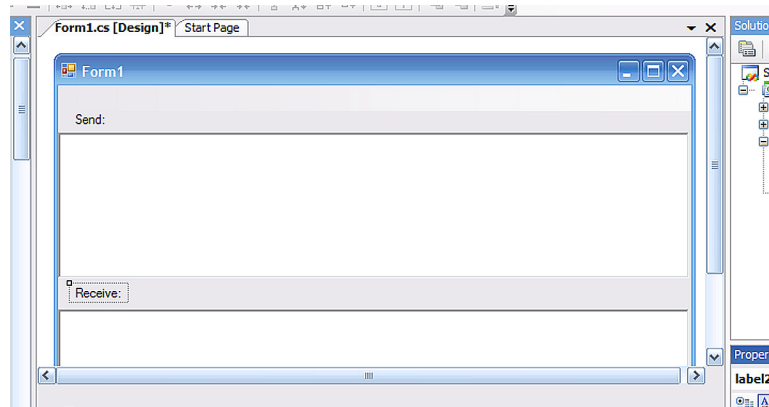

Figure 11: RichTextBoxes
- BORING! Plain old gray just won't cut it. Let's tart this up a bit. (Figure 11: RichTextBoxes)